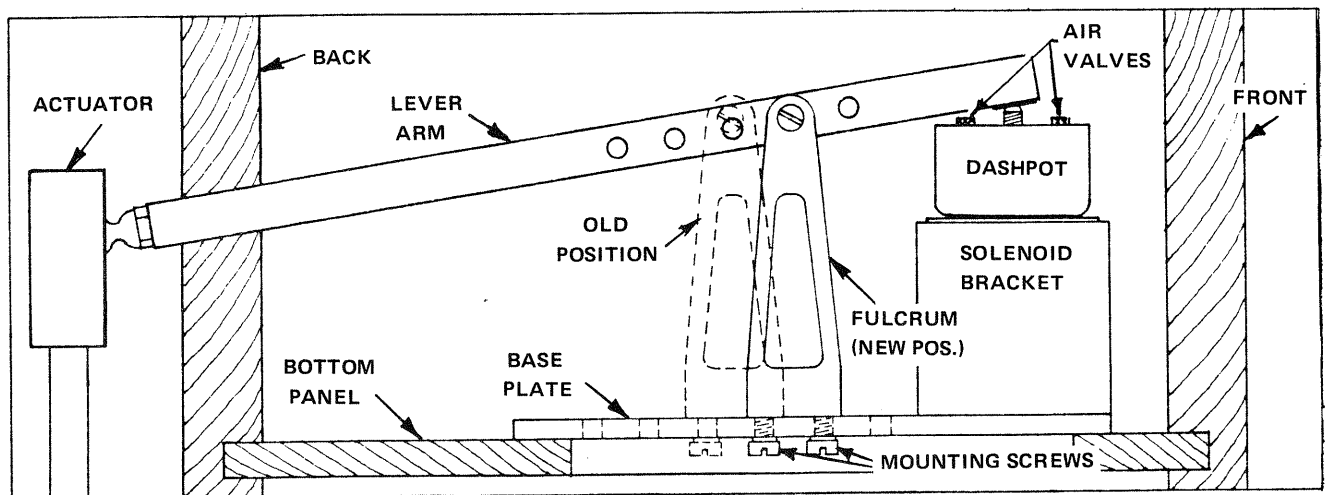

FIGURE 9-54 Fulcrum adjustment.
R. Move the unit away from the piano. Remove the Screw pinning the Lever Arm to the Fulcrum and the Screws holding the Fulcrum to the Base Plate. Adjust the position of the Fulcrum one set of mounting holes TOWARD the Solenoid and secure it to the Base Plate as shown in FIGURE 9-54. Attach the Lever Arm to the Fulcrum with its mounting Screw, but use the next hold TOWARD the Solenoid end of the Lever Arm from the original mounting hole. SEE NOTE below and CAUTION ON PAGE 151.
Make sure that the rubber pad on the Lever Arm (See FIGURE 9-54) is fully contacting the tip of the Solenoid plunger after the adjustment is made. This adjustment decreases the thrust of the Solenoid by decreasing the amount of leverage it can apply to the pedal.